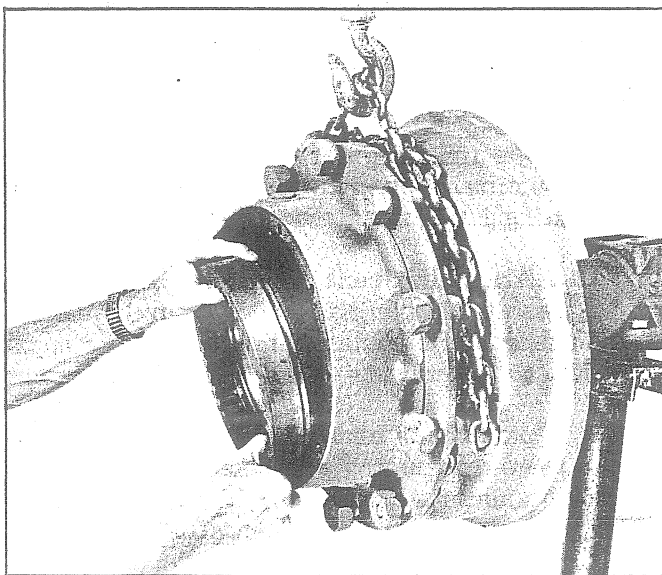

Fig. 7 - Removing or Installing Internal Planetary Ring Gear
7. Support the weight of the brake drum and hub assembly -- then remove internal planetary ring gear as shown in Fig. 7.
4. With the hub and drum still supported by the hoist, slide planetary ring gear over axle housing as shown in Fig. 7.